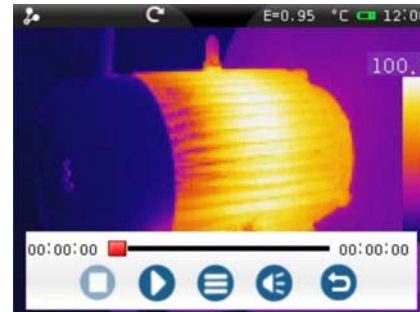

Fig. 68: Recalling saved IR videos on the display
1. Touch the icon “” in the main menu. The following screen appears (see Fig. 68 – Left side):
4. Touch a video icon in the gallery to see it again. The selected video is marked by the symbol “▶”. The screen Fig. 68 – Right side is shown on the display. The meaning of the symbols is the following: